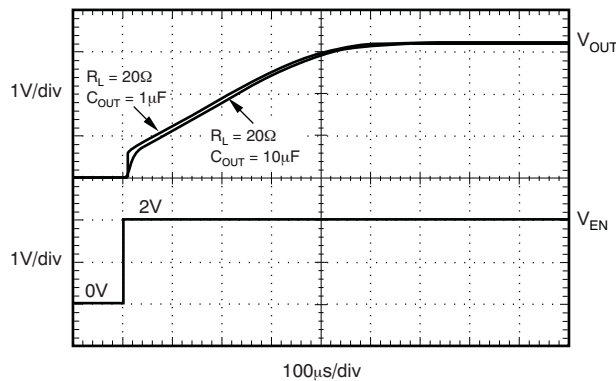

Figure 23. TPS7A3701: TURN-ON RESPONSE
The enable pin (EN) is active high and is compatible with standard TTL-CMOS levels. A V_{EN} below 0.5 V (max) turns the regulator off and drops the GND pin current to approximately 10 nA. When EN is used to shutdown the regulator, all charge is removed from the pass transistor gate, and the output ramps back up to a regulated V_{OUT} (see Figure 23).